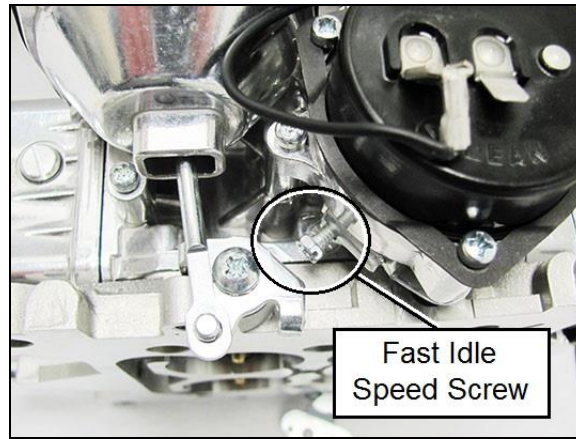

Figure 8
1. If the fast idle RPM is too low or too high for your preferences, SHUT DOWN THE ENGINE! Advance the throttle to wide-open, exposing the fast idle set screw below the choke housing (Figure 8).